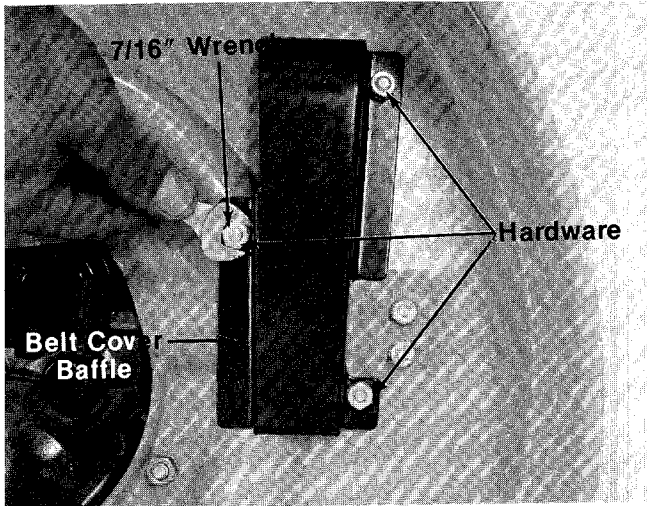

FIGURE 23.
5. Remove the three hex bolts, lock washers and hex nuts from the belt cover baffle. A 7/16" wrench is required. See figure 23.